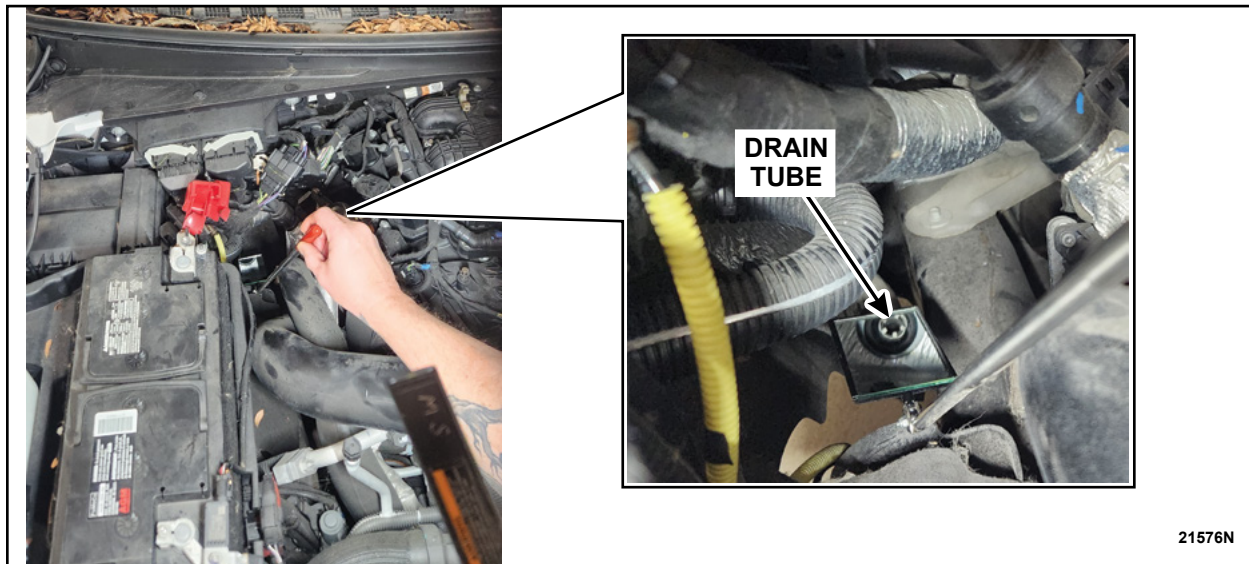
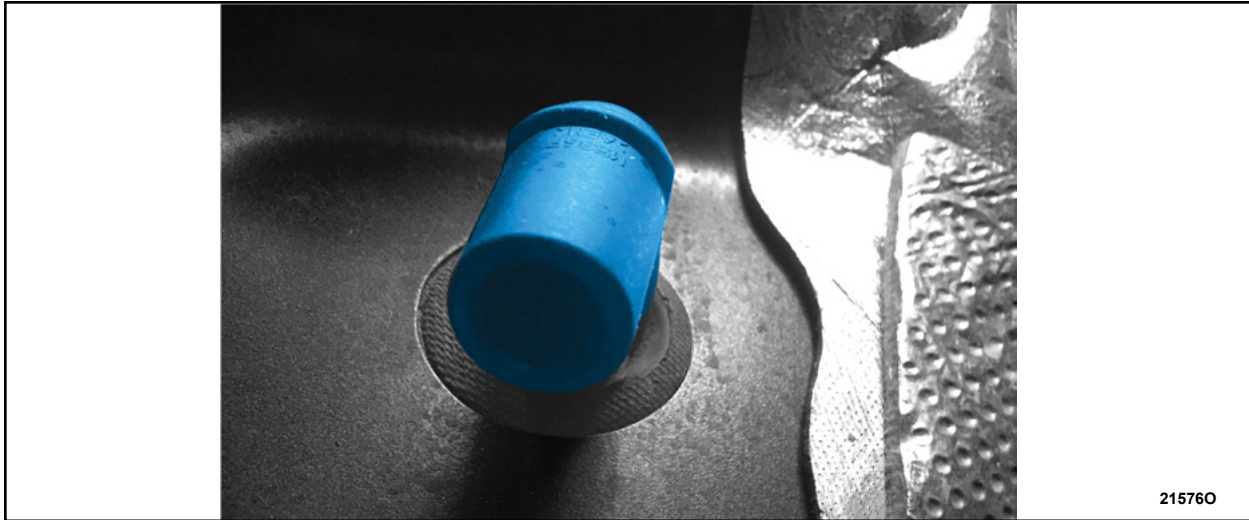

FIGURE 1
FIGURE 2
1. Using an extension mirror through the Right Hand (RH) side of the engine compartment, inspect the evaporator drain tube for the presence of an elbow installed.
- Is there an elbow installed? See Figure 1 for correct location to inspect and Figure 2 for an example of the elbow installed.